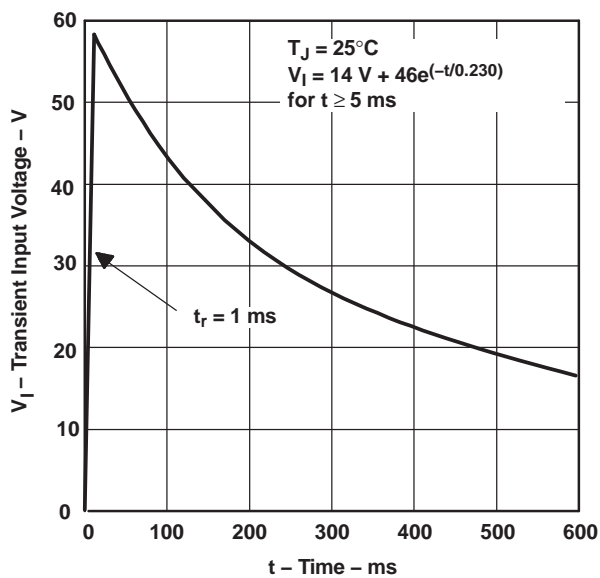

Figure 4.
(1) Pulse-testing techniques maintain the junction temperature as close to the ambient temperature as possible. Thermal effects must be taken into account separately. All characteristics are measured with a 0.1- $\mu\text{F}$  capacitor across the input and a 10- $\mu\text{F}$  tantalum capacitor on the output, with equivalent series resistance within the guidelines shown in Figure 4.
(2) Measured when the output voltage,  $V_O$ , has dropped 100 mV from the nominal value obtained at  $V_I = 14\text{ V}$ .
- (1) Pulse-testing techniques maintain the junction temperature as close to the ambient temperature as possible. Thermal effects must be taken into account separately. All characteristics are measured with a 0.1- $\mu\text{F}$  capacitor across the input and a 10- $\mu\text{F}$  tantalum capacitor on the output, with equivalent series resistance within the guidelines shown in Figure 4.
- (2) Measured when the output voltage,  $V_O$ , has dropped 100 mV from the nominal value obtained at  $V_I = 14\text{ V}$ .